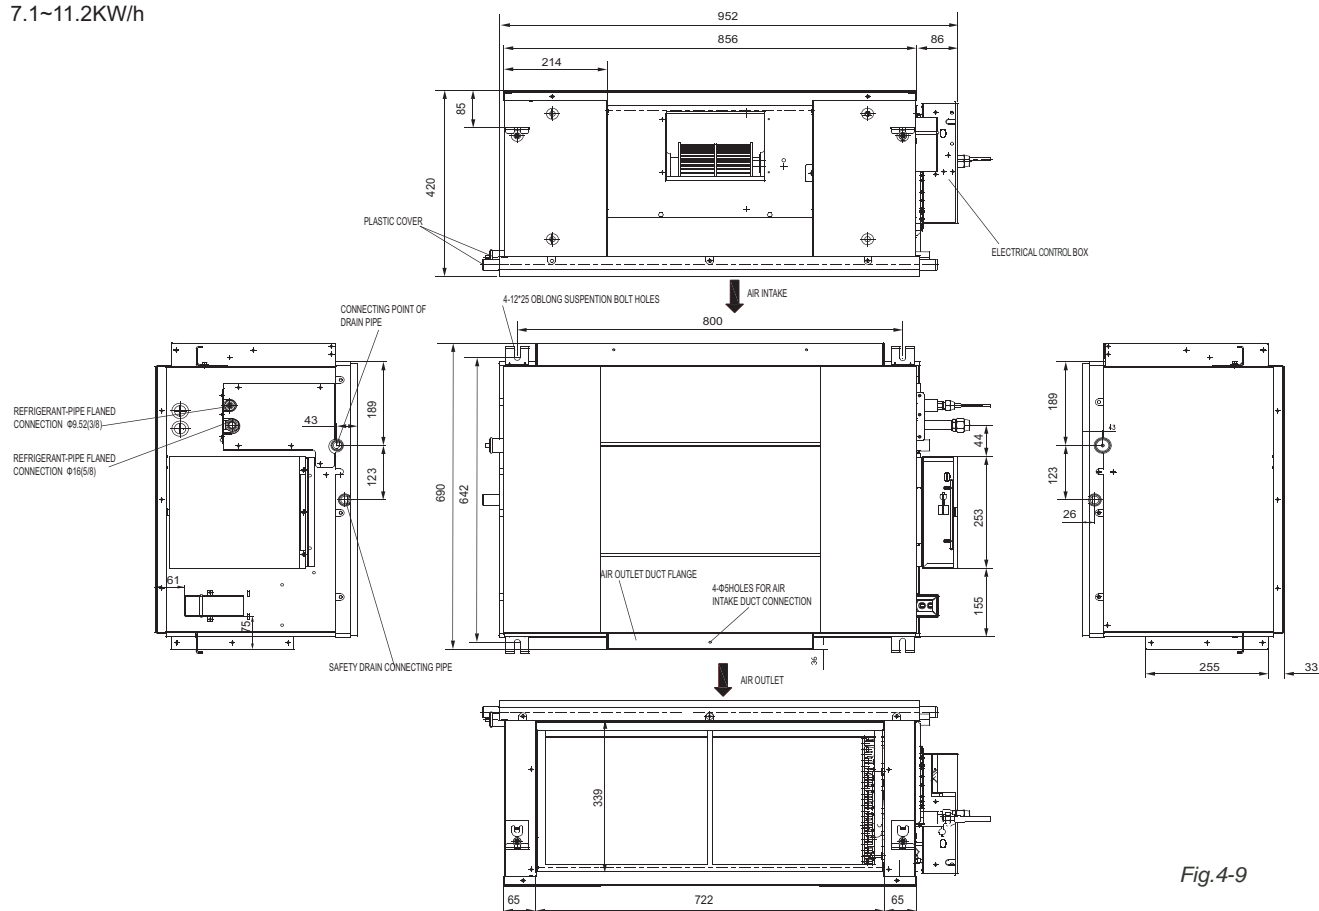

Fig.4-9
- ① Routine method of installation: the size of installation for indoor unit following Fig.4-9
- ② Please install with  $\Phi 10$  hanging screw bolts.
- ③ Carry out the pipe and line operation in the ceiling after finishing the installation of the main body. While choosing where to start the operation, determine the direction of the position the refrigerant pipes, drain pipes, indoor & outdoor lines and line-controlled lines to the connection places before.